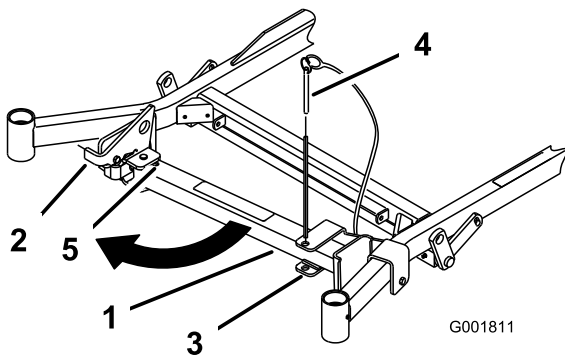
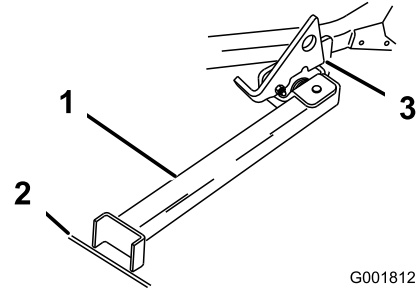

Figure 24
Figure 25
2. Remove the bracket pin (Figure 24).
3. Raise the latch. Swing the stand foot out front and slide stand toward machine, into the bottom of slot (Figure 24 and Figure 25).
4. Set the foot of stand on the ground and rest the latch on the pivot tab (Figure 25).
Note: For best results, place the foot of stand into seams in sidewalks or into the turf (Figure 25).
6. Drive onto the stand. Stop when the latch drops over the tab into the locked position (Figure 25). Once onto the stand, engage the parking brake and turn off the engine.
5. Return the stand to its rest position (Figure 24).